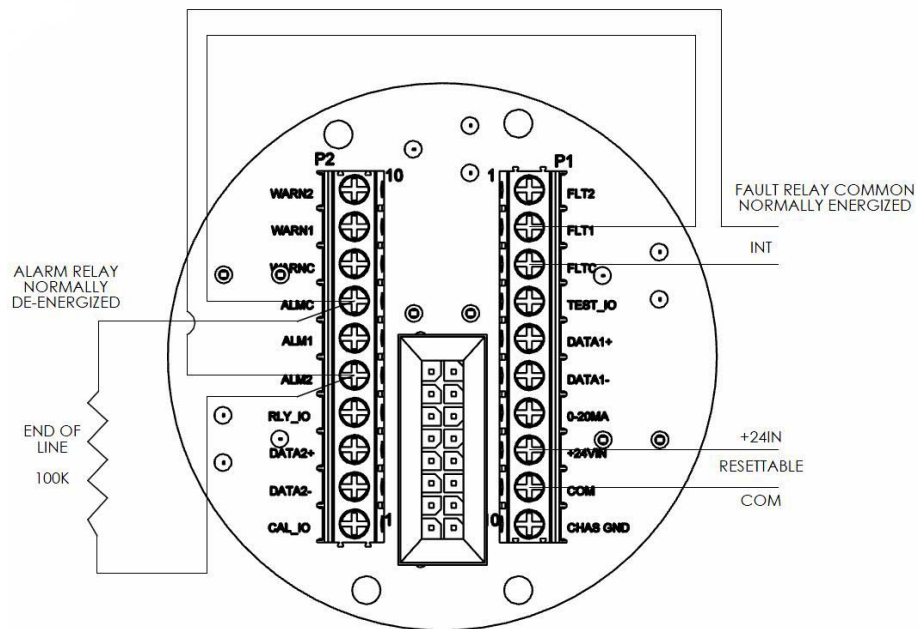

Figure 5: Field Terminations Showing Wiring for Fire Alarm Systems¹
| Figure 5: Field Terminations Showing Wiring for Fire Alarm Systems | ix |
1. Loosen the captive screws (A) located on the Optical Housing Assy.
3. Wire the unit to the site-wiring following the connection diagram shown in Figure 5.